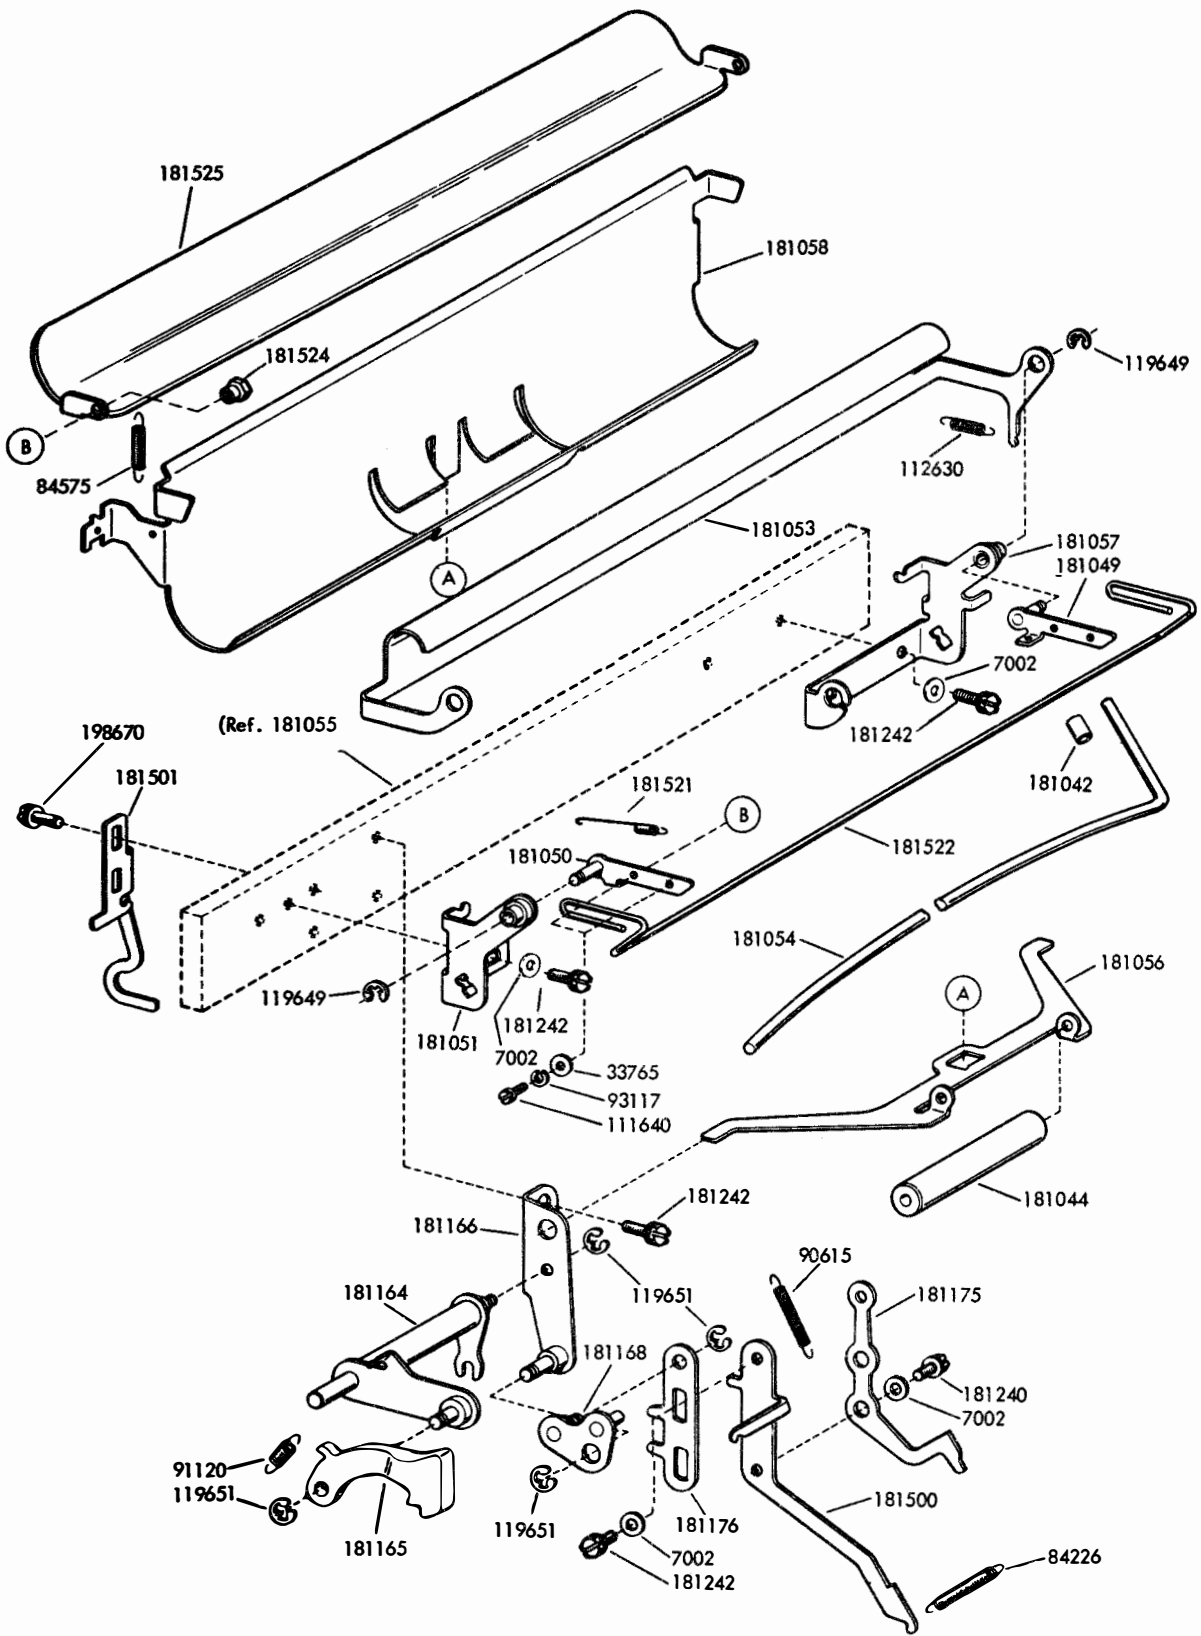

FIGURE 1
2. INSTALLATION (Figures 1 and 2)